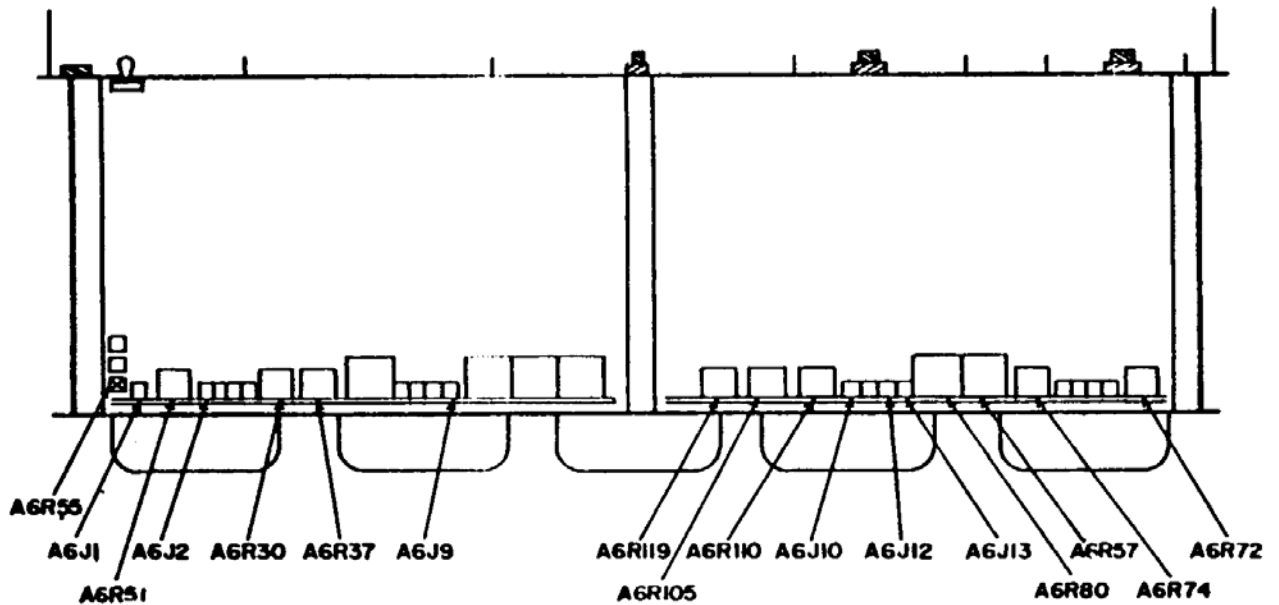
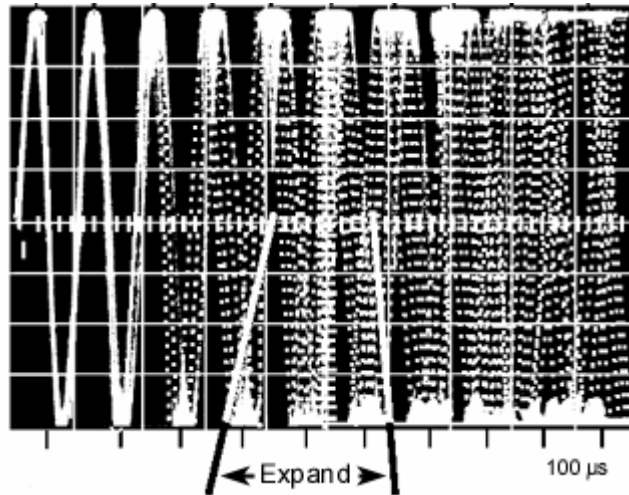
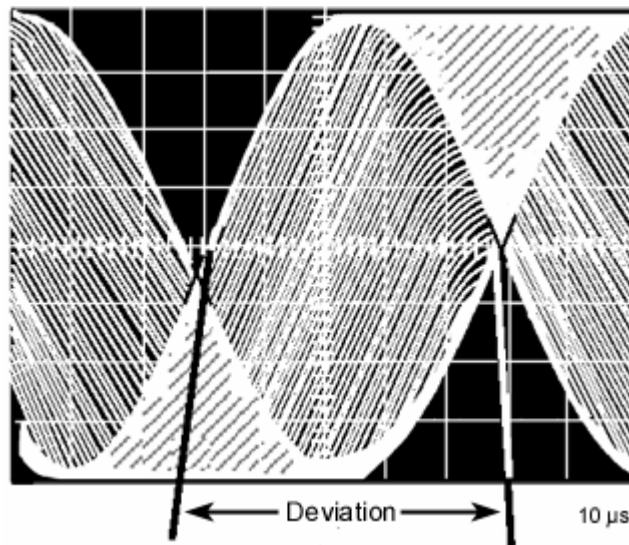

Figure 3. Test instrument - top view
Figure 5. 9960 Hz FM Deviation Display.
Figure 6. 9960 Hz FM Deviation Display with Jitter expanded.
- (1) Connect frequency counter to TI **J3**. Short A6J9 (fig. 3) to ground.
- (2) Set **VOR PWR** switch to **ON** and **VOR 108.00-108.05** switch to **108.00**. If frequency counter does not indicate between 107.9973 and 108.0027 MHz, perform **b(1)** below.
- (3) Set **VOR 108.00-108.05** switch to **108.05**. If frequency counter does not indicate between 108.0473 and 108.0527 MHz, perform **b(2)** below.
- (4) Set **VOR PWR** switch to **OFF** and **LOC PWR** switch to **ON**.
- (5) Set **LOC 108.10-108.15** switch to **108.10**. If frequency counter does not indicate between 108.0973 and 108.1027 MHz, perform **b(3)** below.
- (6) Set **LOC 108.10-108.15** switch to **108.15**. If frequency counter does not indicate between 108.1473 and 108.1527 MHz, perform **b(4)** below.
- (7) Remove short from A6J9 (fig. 3) and connect to A6J1 (fig. 3). Set **LOC PWR** switch to **OFF** and **GLIDE SLOPE PWR** switch to **ON**.
- (8) Set **GLIDE SLOPE 334.70-334.55 (334.70-334.10)** switch to **334.70**. If frequency counter does not indicate between 334.69164 and 334.70836 MHz, perform **b(5)** below.
- (9) Set **GLIDE SLOPE 334.70-334.55 (334.70-334.10)** switch to **334.55 (334.10)**. If frequency counter does not indicate between 334.54164 and 334.55836 (334.0916 and 334.1084) MHz, perform **b(6)** below.
- (10) Set **GLIDE SLOPE PWR** switch to **OFF** and remove short from A6J1.
- (11) Remove connection from **J3** and connect to **J1**.
- (12) Set **MKR BCN PWR** switch to **ON**. If frequency counter does not indicate between 74.99625 and 75.00375 MHz, perform **b(7)** below.
(1) Connect power meter to TI **J1**. If power meter does not indicate greater than -20 dBm, perform b(1) below.
(2) Set **MKR BCN PWR** switch to **OFF** and **VOR PWR** switch to **ON**.
(3) Short A6J9 (fig. 3) to ground.
(4) Move power meter connection from **J1** to **J3**. If power meter does not indicate greater than -10 dBm, perform b(2) below.
(5) Set **VOR PWR** switch to **OFF** and **LOC PWR** switch to **ON**.
(6) Remove short from A6J9 and connect to A6J2 (fig. 3). If power meter does not indicate greater than -10 dbm, perform b(3) below.
(7) Set **LOC PWR** switch to **OFF** and **GLIDE SLOPE PWR** switch to **ON**.
(8) Remove short from A6J2 and connect to A6J1 (fig. 3). If power meter does not indicate greater than -20 dbm, perform b(4) below.
(9) Remove short from A6J1.
(1) Set **GLIDE SLOPE PWR** switch to **OFF** and **VOR PWR** switch to **ON**. If **VAR** light is illuminated, press light to extinguish.
- (2) Connect measuring receiver power sensor module to TI **J3**. Position measuring receiver controls to measure **AM**.
- (3) Press and hold **VOR 30VAR** and **30REF** pushbuttons. If measuring receiver does not indicate between 27 and 33 percent, perform **b(1)** below. Release **VOR 30VAR** and **30REF** pushbuttons.
- (4) Short A6J12 (fig. 3) to ground, using lead and adapters. If measuring receiver does not indicate an amplitude modulation between 27 and 33 percent, repeat **b(1)** below for best intolerance compromise between **a(3)** and (4).
- (5) Set **VOR 1020HZ** switch to **ON**. Press and hold **VOR 30VAR** pushbutton. Measuring receiver will indicate an amplitude modulation between 5 and 15 percent. Release **VOR 30VAR** pushbutton.
- (6) Connect audio analyzer to measuring receiver modulation output.
- (7) Press and hold **VOR 30VAR** pushbutton. Measure distortion. Audio analyzer will indicate less than 10 percent. Release **VOR 30VAR** pushbutton.
- (8) Set **VOR 1020HZ** switch to **OFF**.
- (9) Measure distortion. Audio analyzer will indicate less than 5 percent.